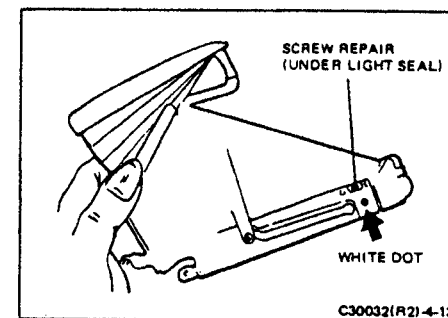

FIGURE 4-13 WHITE DOT INDICATION OF SCREW REPAIR TO BOOT RETAINER TAB
- f. Paint or mark a white dot under the light seal to warn that a screw fix has been made (Figure 4-13).
**Caution:** Before continuing with step 12, look for a white dot painted under the light seal on the upper right side of the bottom plate (Figure 4-13). If the dot is there, it means that a previously broken boot tab has been repaired by using a screw. In this event, you cannot snap off the retainer as described in the next paragraph.